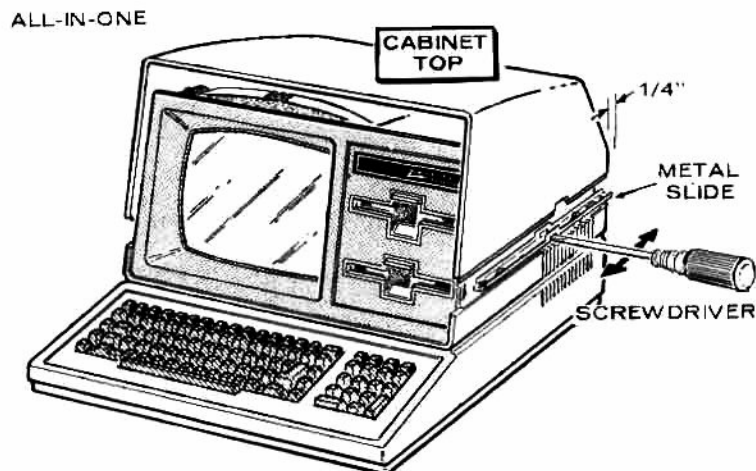

Figure 2.1. Top Case Removal
If the computer is an All-in-One model, as shown in Figure 2.1, proceed with "All-in-One Disassembly". For Low-Profile models, proceed to "Low-Profile Disassembly".
- Refer to Figure 2.1. Use a small screwdriver to move the metal slides all the way to the front and then 1/4" toward the rear, as shown.